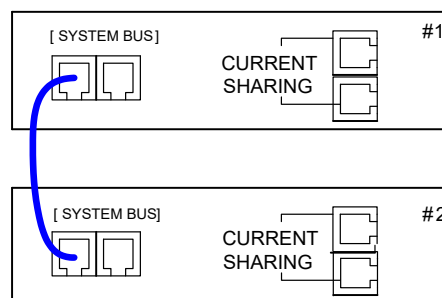
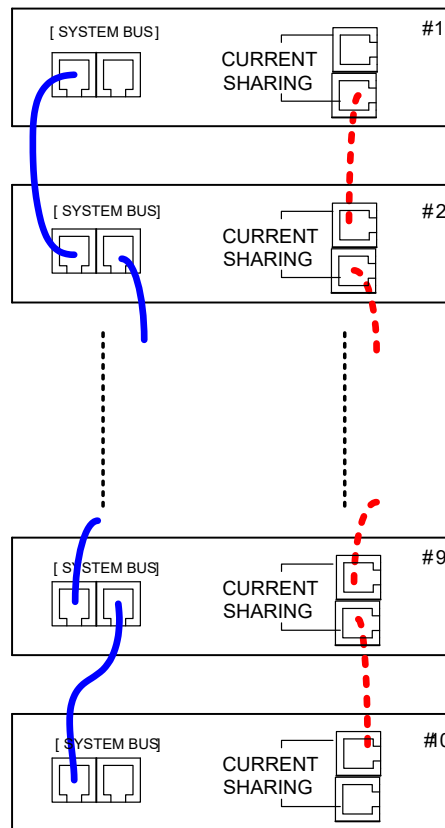

Figure 3-29
Figure 3-30
- When the DC Power Supply is connecting in series for operation, the SYSTEM BUS connectors on the rear panel must be connected as Figure 3-29 shows.
- When the DC Power Supply is connecting in parallel for operation, besides the SYSTEM BUS connectors on the rear panel need to be connected, the **CURRENT SHARING** connectors have to be connected as well as Figure 3-30.
- Each DC Power Supply has two RS485 interface female connectors. They need to be connected either in series or parallel operation. There is no difference between left and right; just to connect one after another as Figure 3-29 or Figure 3-30 shows in solid line. The length of communication cable is limited to 7.2 meters. Do not exceed the length limit to avoid signal unstable.
- Each DC Power Supply has two CURRENT SHARING connecting terminals. Connect the output terminal of the first Power Supply to the input terminal of the second Power Supply and so forth as Figure 3-30 shows in dot line. Be sure to use the CURRENT SHARING communication cable provided by CHROMA. The length of CURRENT SHARING cable is limited to 3.4 meters. Do not exceed the length limit to avoid signal unstable.
Connect the cables on the rear panel as Figure 3-29 shows when set to SERIES and as Figure 3-30 shows when set to PARALLEL.